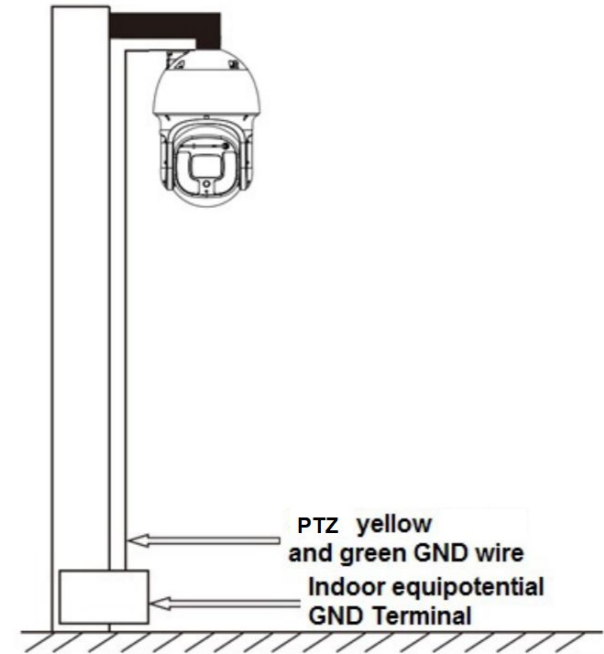

Figure 5-2
- For indoor usage, The yellow and green GND wire or GND screw of the speed dome should be reliably connected by several strands of copper wire with no less than 25mm2 and indoor equipotential GND terminal. Please refer to Figure 5-2 for lightning proof installation mode.